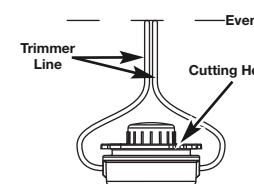

Fig. 23
4. Adjust the line so that both ends are of equal length (Fig. 23).